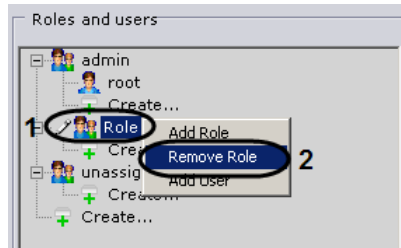

Fig. 6.10—3 Deleting a role
1. In the user tree, select the role that you want to delete (Fig. 6.10—3, 1).
3. Select **Delete role** (see Fig. 6.10—3, 2).